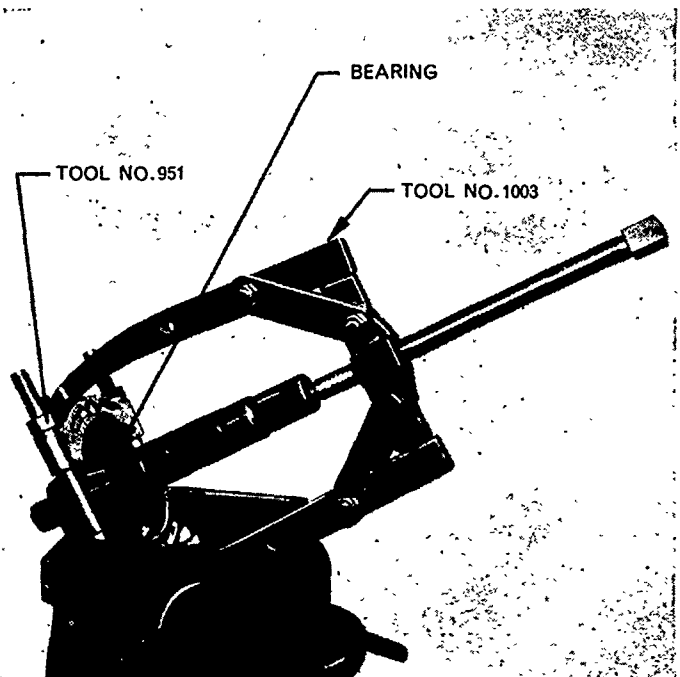
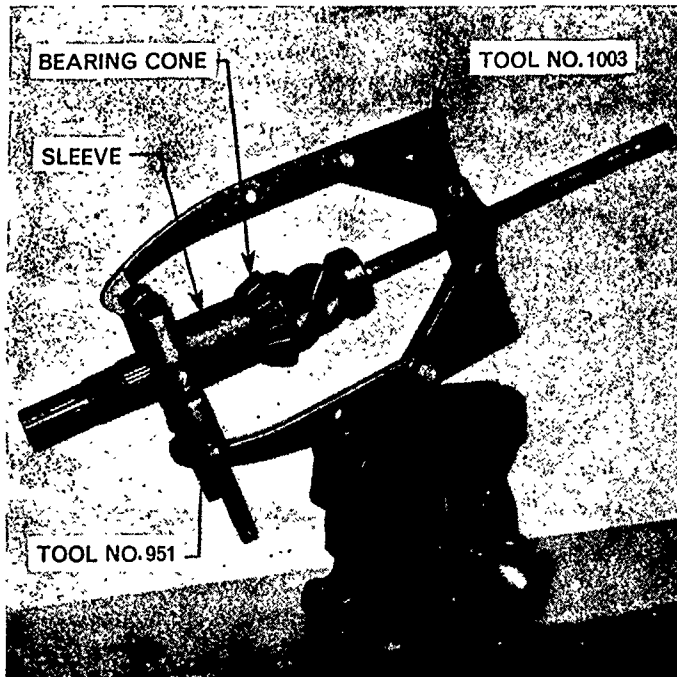

Figure 28
Figure 29
3. If it is necessary to install a new rear pinion cone and roller assembly, the assembly may be removed using Tool Nos. 1003 and 951, Figure 28. The new cone and roller is installed using the same tools and a suitable sleeve to enable the tool to press on the inner bearing race as shown in Figure 29.